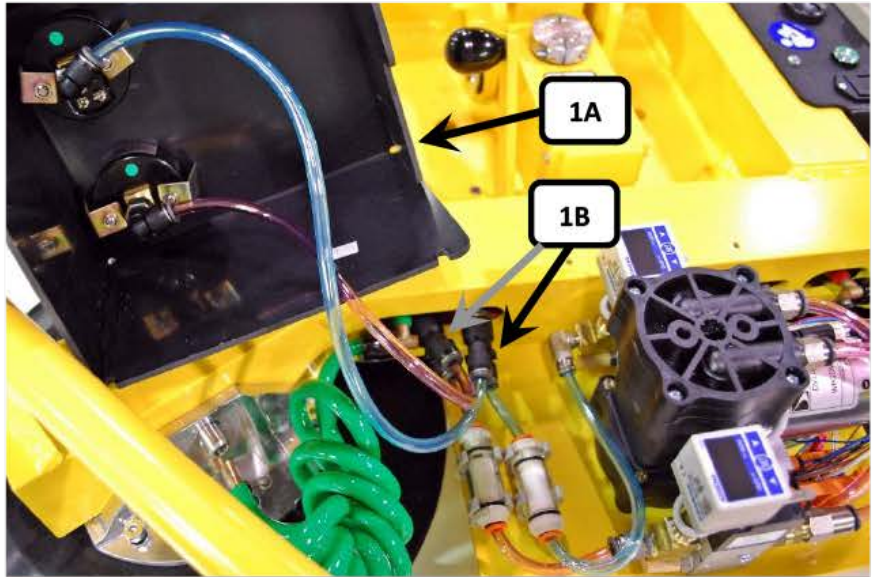

FIGURE 1
- 1) Carefully remove the valve enclosure cover (1A) and lay it to one side. See **FIGURE 1**.